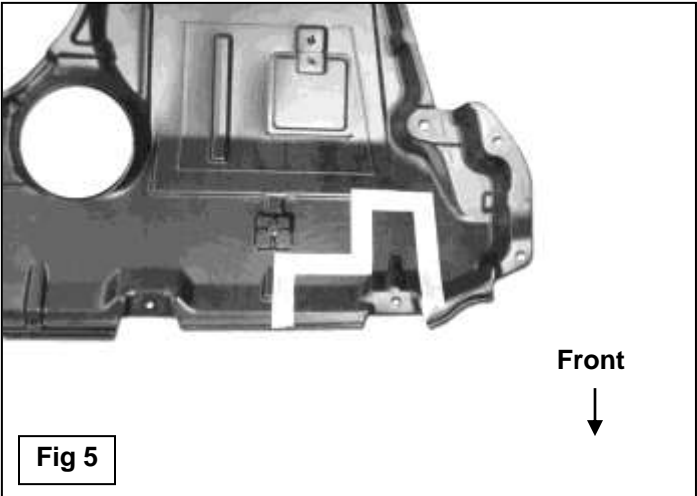
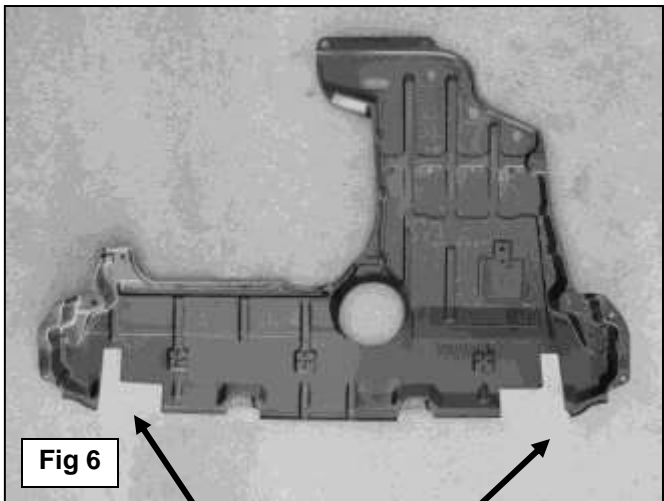

Fig 5
Fig 6
8. Hold the splash guard up into position under the Mounting Brackets and mark the location of the Brackets onto the inside of the cover, (**Figure 5**). Cut the splash guard to clear the Mounting Brackets, (**Figure 6**). **IMPORTANT:** To maintain strength, cut only what is required to clear the Mounting Brackets. Once cut and trimmed for fit, reinstall the splash guard using the factory hardware.